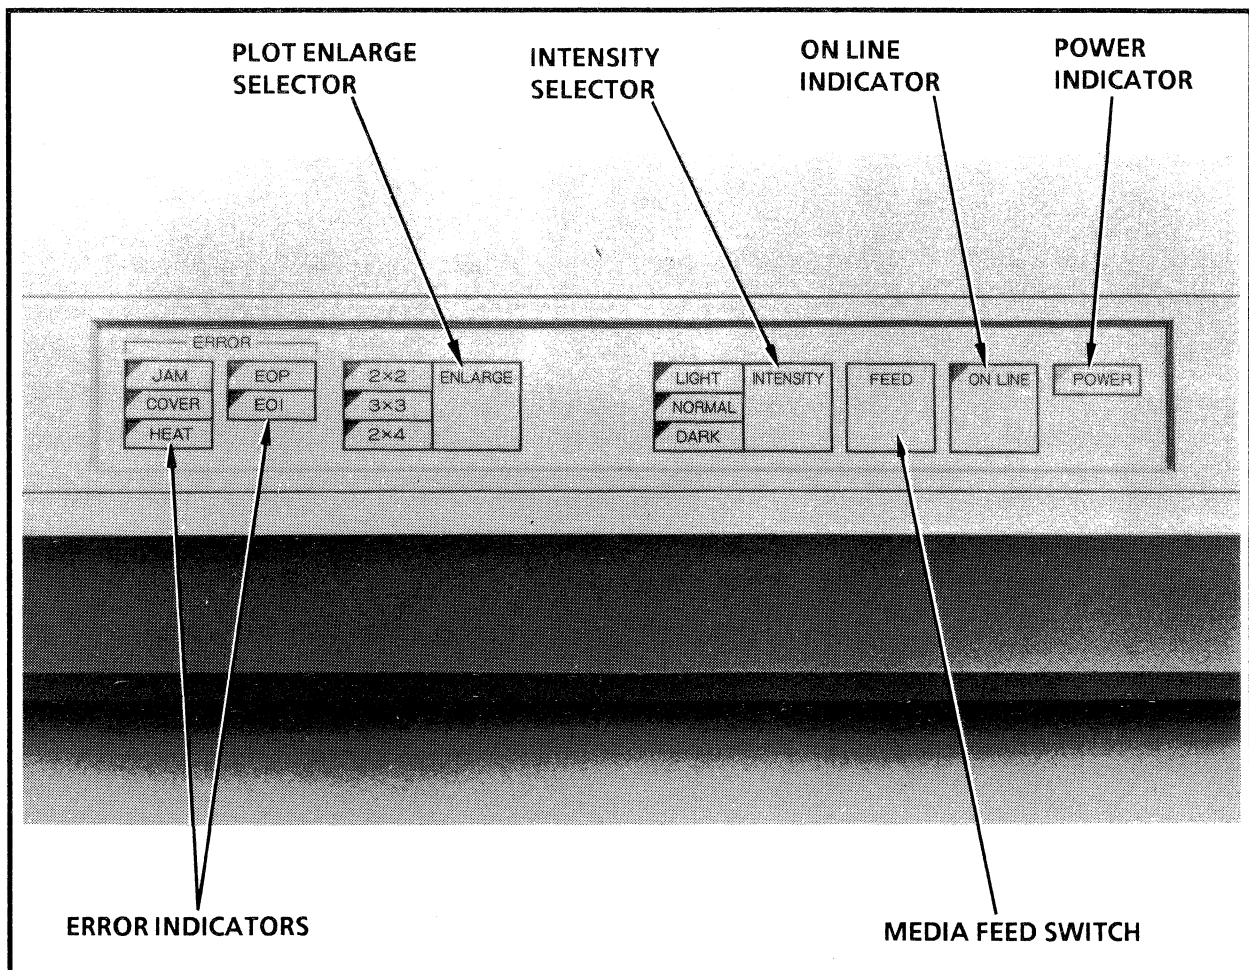

Figure 4-1. C2700 Control Panel
The plotter control panel is shown in Figure 4-1. Table 4-1 provides a functional description of the control switches and plotter status indicators.
**Note:** *The INTENSITY switch (shown in Figure 4-1) on the control panel is typically set to NORMAL. Once a plot has been run, you may wish to adjust plot color intensity using this control. The plotter must be switched OFF LINE to accomplish this.*